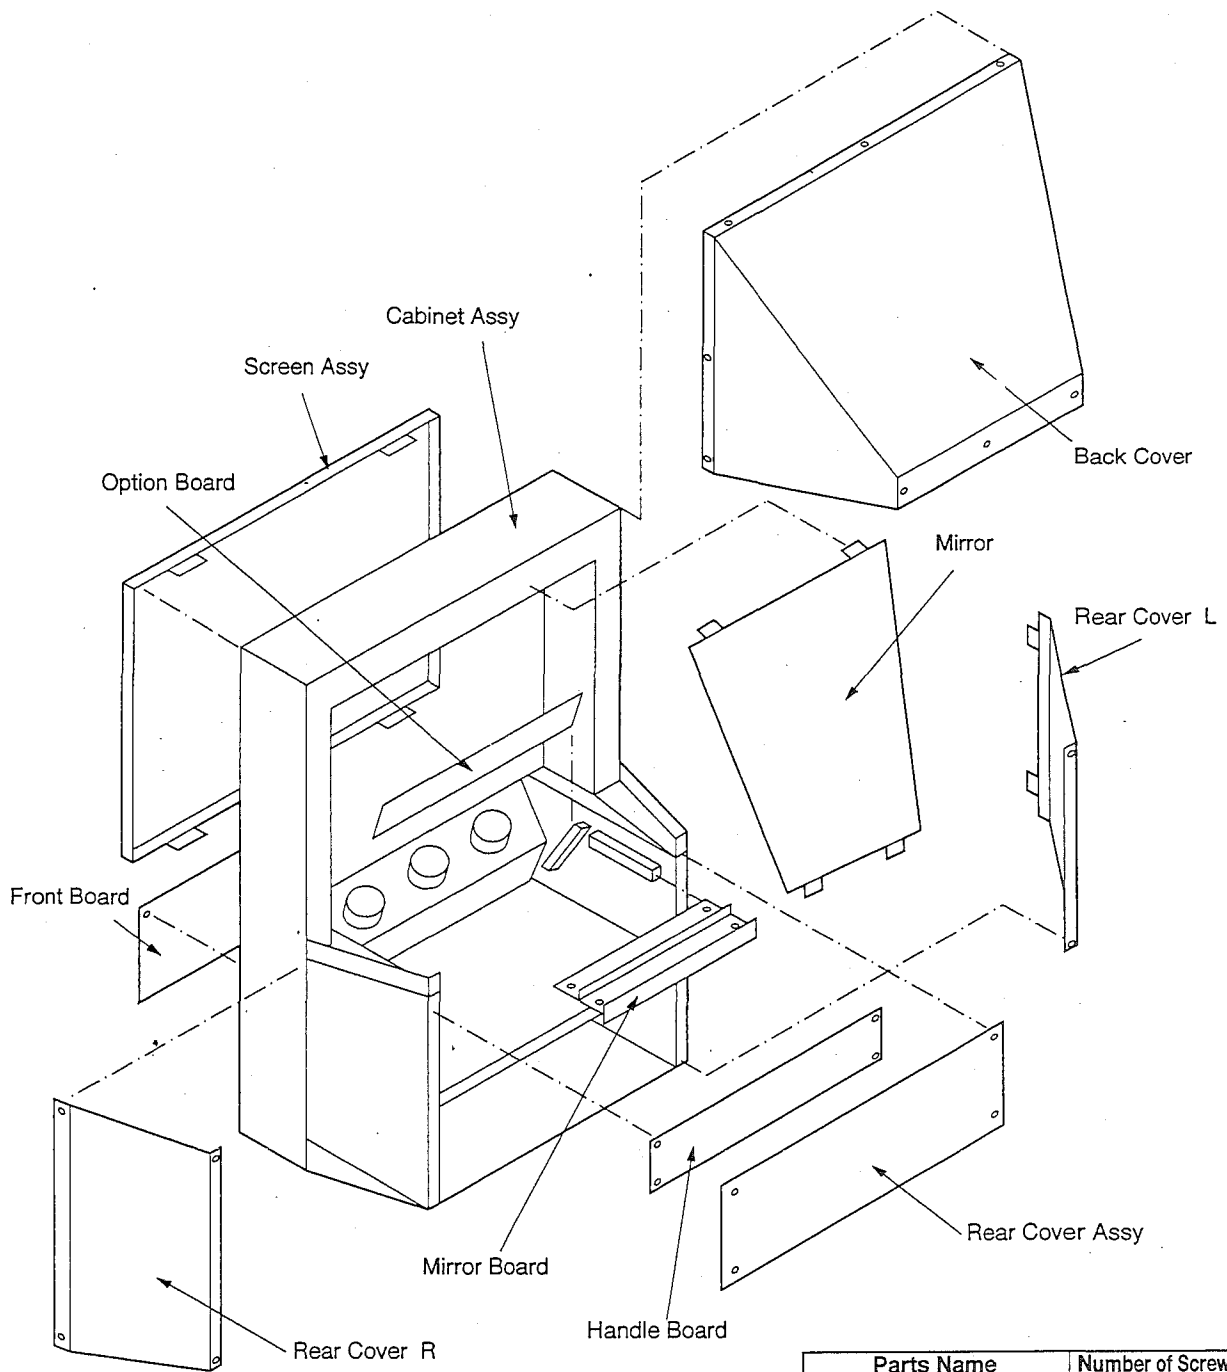

Fig. 2
1. Remove the Rear Cover Assy. (Fig. 2)
3. Remove the Back Cover, Mirror Board and Option Board. (Fig. 2)